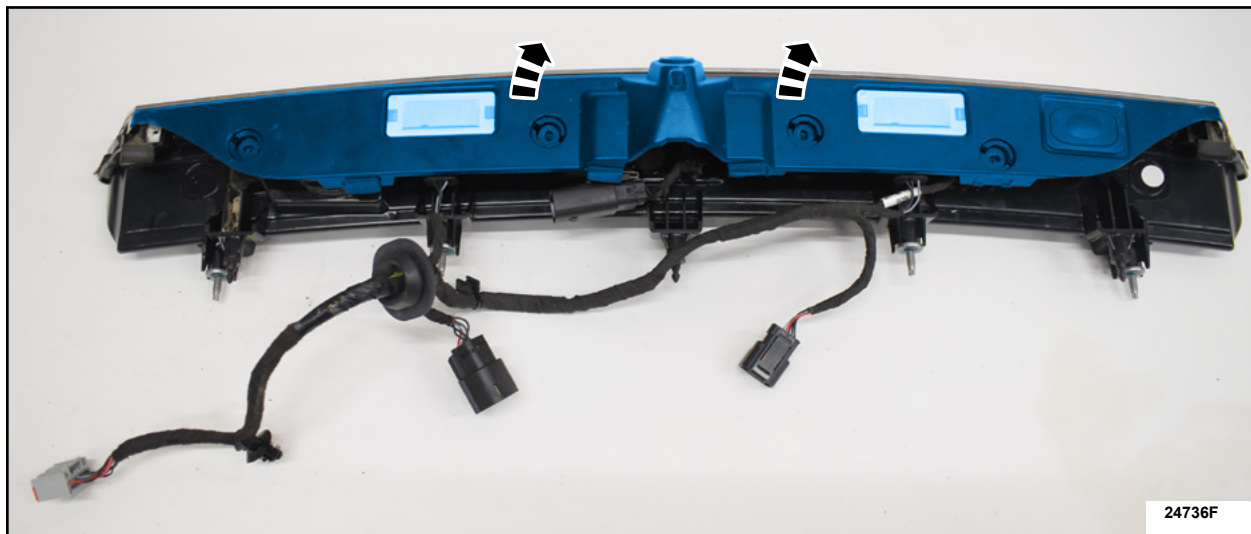

FIGURE 8
7. Separate the two halves of the liftgate moulding. See Figure 8.